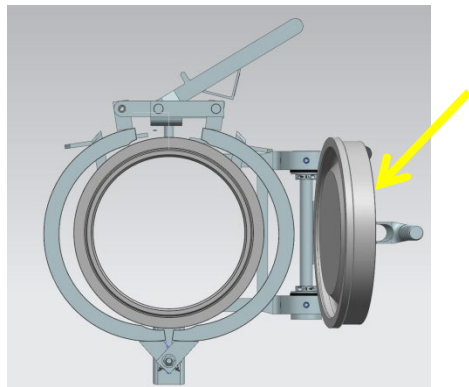

Figure 11: Closure Door
D. Open closure door, see Figure 11.